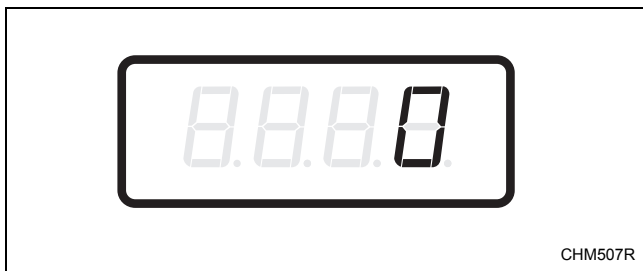

Figure 24
4. When “CnP1” appears in the display, press the START (enter) keypad. There are five digits in the Heavy Cycle Selection Vend Price. The fifth digit will appear in the display and will flash for one second on, one second off. Refer to *Figure 24*.